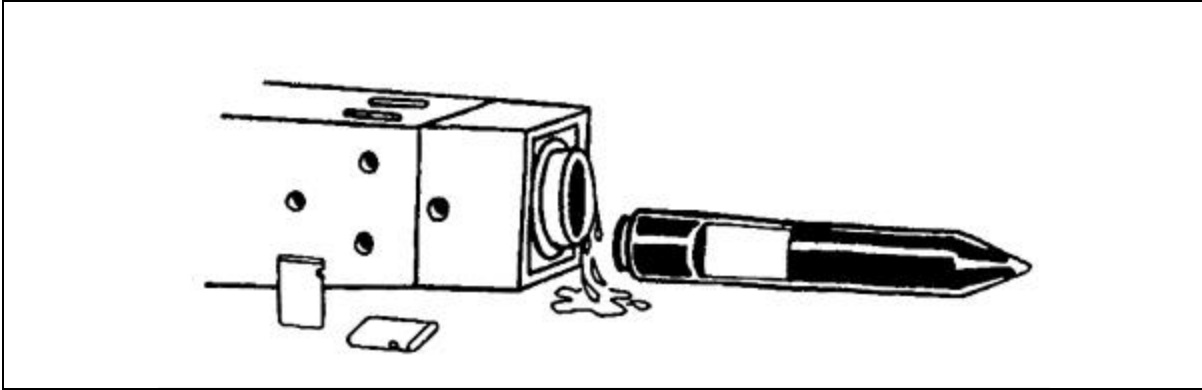

Figure 05-11: Grease New Tool And Align
- e) Grease the new tool well. Insure the cavity is clean and the bush is lubricated. Slide it in so that the side notches are in line with the axle slots and push in snugly. (Figure 05-11)